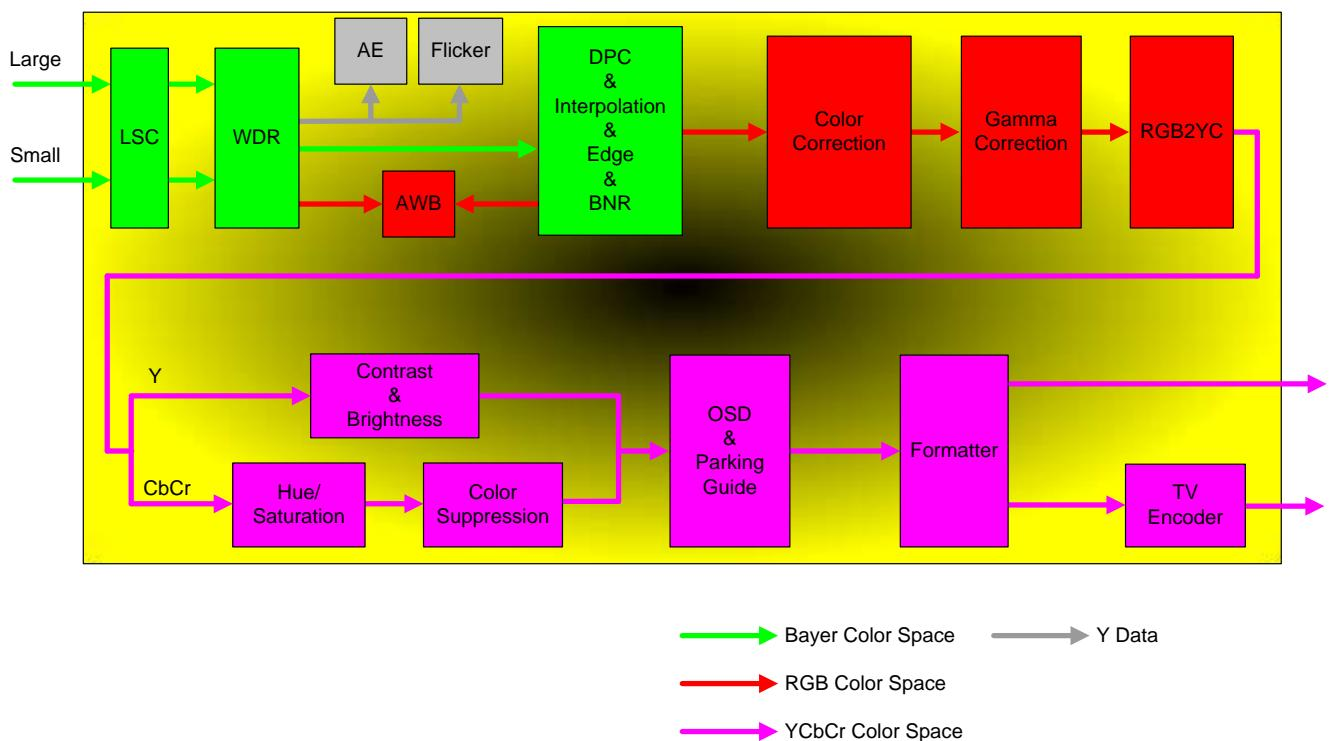

Figure 12-1 ISP Block Diagram
ISP (Image Signal Processing) carries out a function whereby the 10 bit data input from the sensor is converted into RGB and image processed to be output again. As shown in Figure 12-1 ISP Block Diagram, the input video data is processed together with Y and RGB data for Auto Exposer(AE) and Auto White Balance (AWB), through LSC and WDR blocks. Bayer format data goes through interpolation part to be converted to R[9:0], G[9:0], B[9:0].